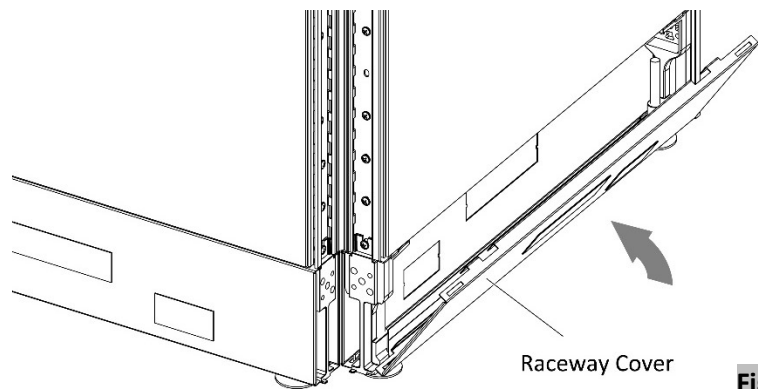

Figure 2
- 2. Raise the raceway cover up and push gently to click, (Figure 2).